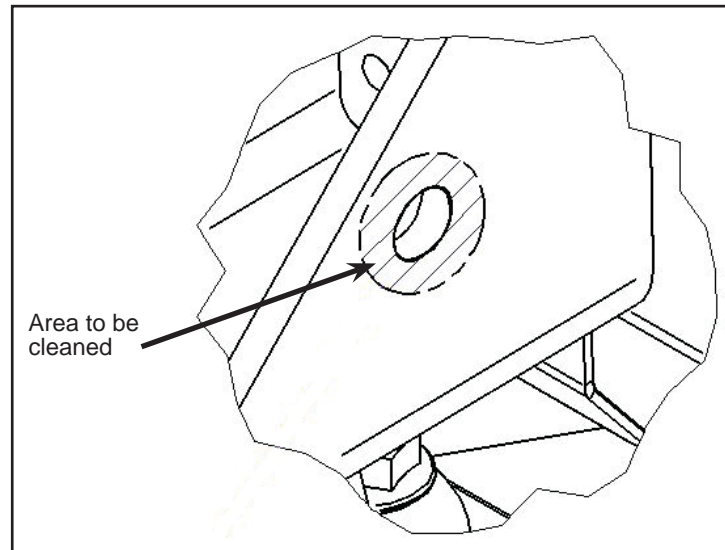

Figure 3 - Area to be cleaned
- 1.4. Remove paint from the frame area to bare metal where the ground cable makes contact. See Figure 3.